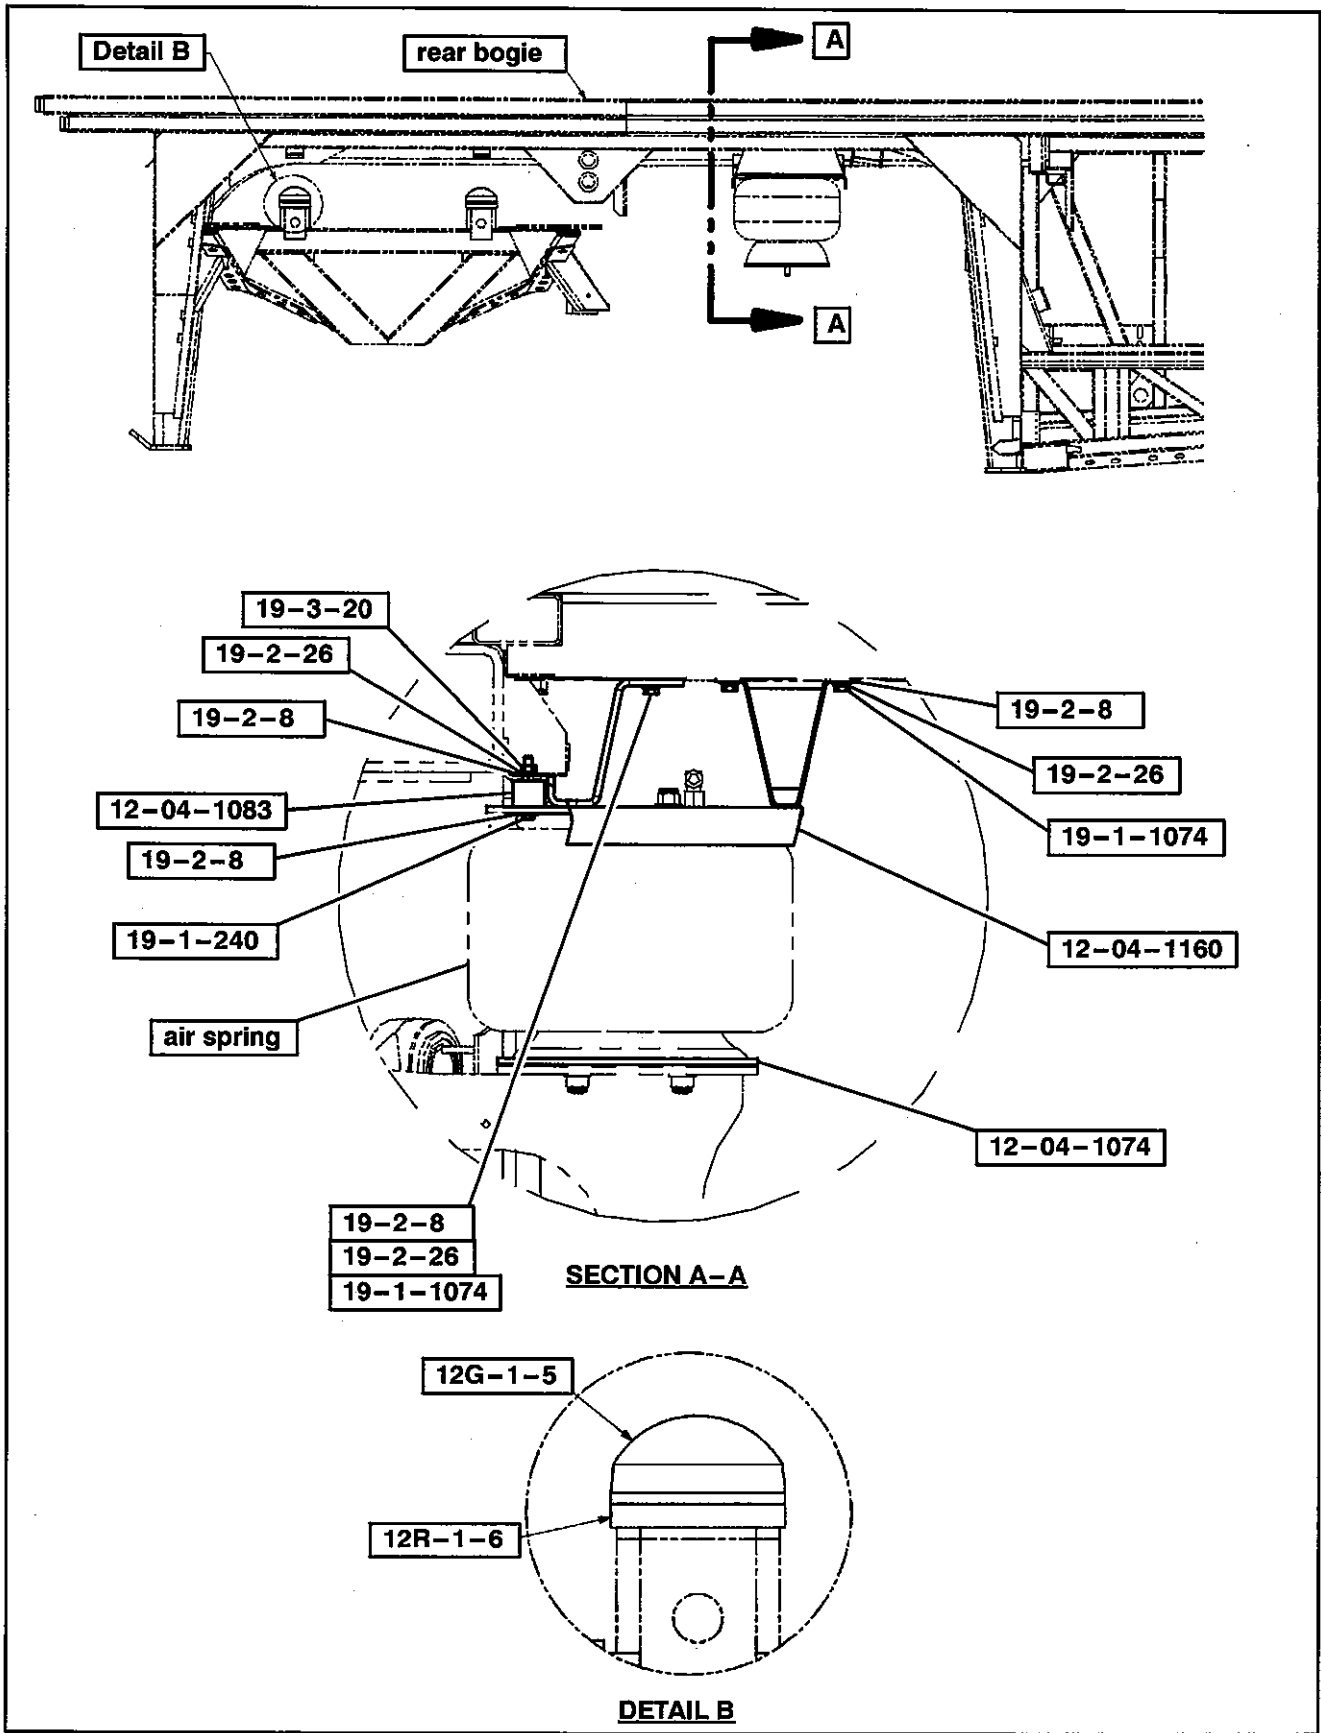

Figure 5.
14. Install the new rubber bumper (p/n 12G-1-5) and bumper block spacer (p/n 12R-1-6) (Detail B / Figure 5).
- 16. Install the new plate assembly (p/n 12-04-1160) and spacer (p/n 12-04-1083) in the locations shown in Figure 5., using the new plate assembly mounting hardware provided in the Parts list. Torque nut (p/n 19-3-314) to 18–22 ft.-lbs.
- 17. Align and position the spacer (p/n 12-04-1074) in the location shown in Figure 5.